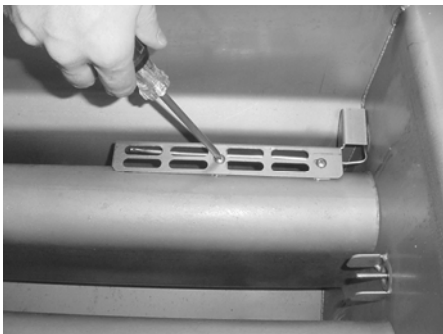

Figure 2-8
6. Remove the two screws securing the high limit guard and remove guard. Figure 2-8